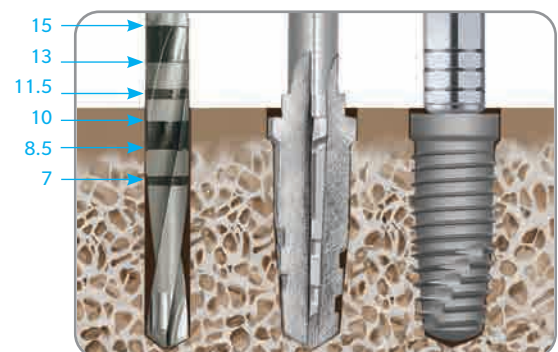

Fig. 3 Under Prepared Subcrestal Placement Of 11.5 mm Implant
Under Preparing the osteotomy depth and then placing the implant more apical relative to the prepared depth may result in the implant stopping short of the desired placement level. [Fig 3].
Step 3: When placing the implant, the implant platform should reach the same position that the NTDI platform previously attained. If the implant platform is positioned higher in relation to the crest of the bone than the platform of the NTDI previously demonstrated, or if the surgical motor stalls prior to full placement of the implant due to insufficient torque, then hand ratcheting is recommended to achieve the proper final implant seating position [Fig. 3].